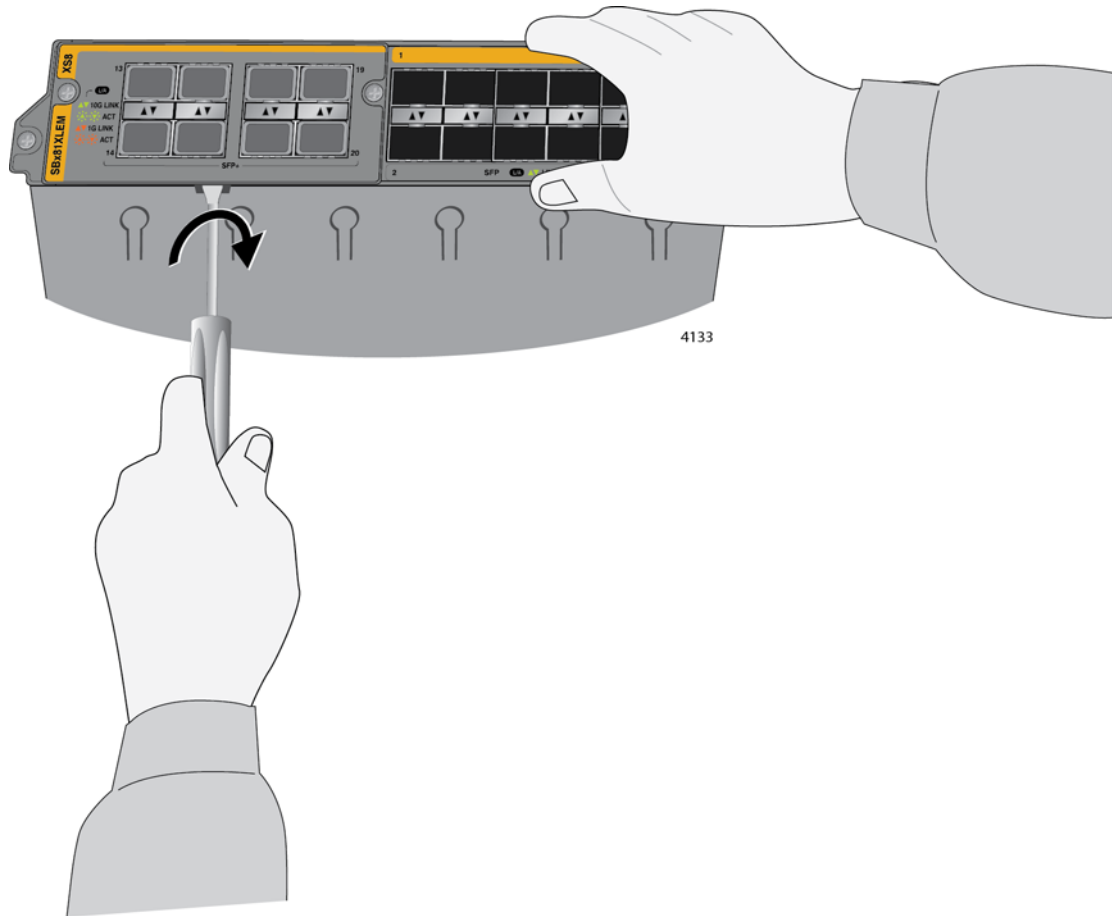

Figure 173. Disconnecting the Expansion Module from the AT-SBx81XLEM Line Card
5. Lift the front of the line card and carefully insert the tip of a flathead screwdriver into the slot beneath the expansion module on the bottom panel. Gently twist the screwdriver to disconnect the module from the connector in the line card. Refer to Figure 173.